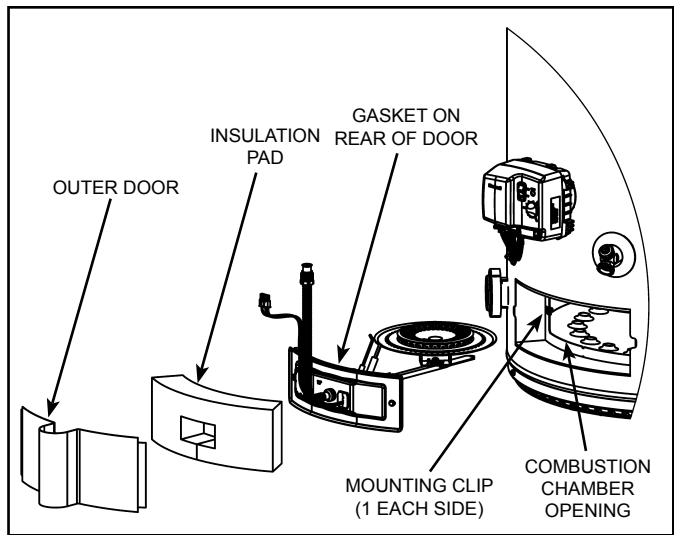

Figure 17
9. Remove inner door/manifold/burner assembly by grasping the manifold, rotating it to the left to clear the igniter and flame sensor and pulling back. Care should be taken when inner door and burner assembly passes through jacket opening that it does not damage any of the electrical wiring (see Figure 17).
1. Locate the gasket that is on the rear of the burner door assembly (see figure 17 - 19).
3. Using the 3/4" scraper, clean around the combustion chamber opening to ensure no old gasket material is stuck on the combustion chamber (Figure 17). Use the flashlight to clearly illuminate this area. Take care not to damage the mounting clips located on each side of the opening.